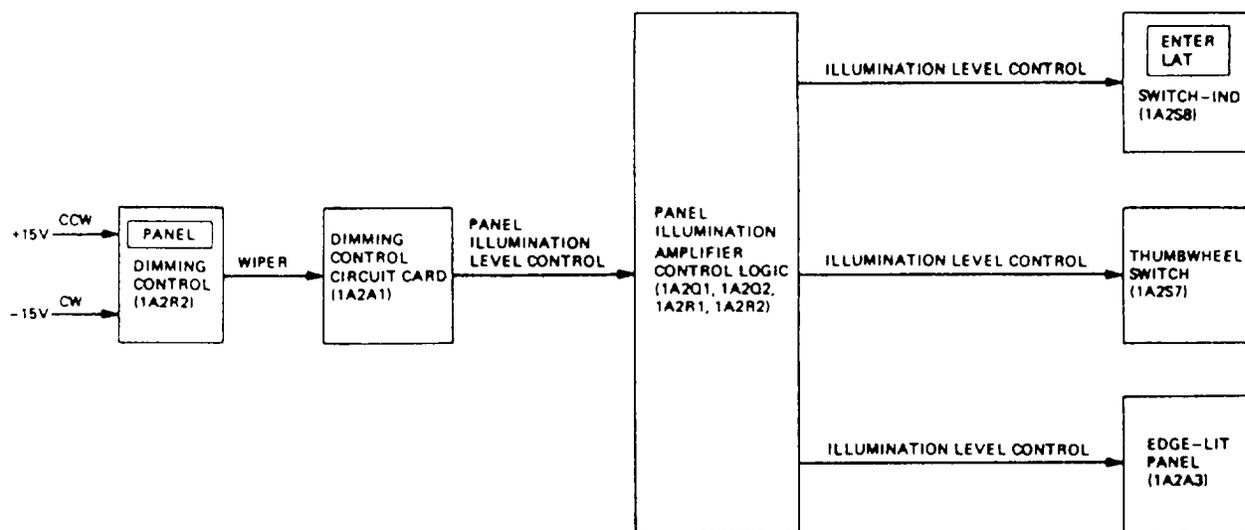

Figure 4-49.—Panel lighting dimming block diagram.
Two circuits control the level of illumination of the control-indicator's panel lighting and indicators. These circuits are illustrated in block diagrams in figures 4-49 and 4-50.
**PANEL LIGHTING.**— The control indicator panel lighting is controlled by a potentiometer marked PANEL. The PANEL potentiometer is excited by  $\pm 15$  volts dc. The potentiometer adjusts a biasing level applied to the illumination sensing circuit in the dimming control circuit card. The output of the sensing circuit drives the dimming control amplifier. The output of the dimming control amplifier is an aboveground variable voltage determined by the position of the PANEL potentiometer. Figure 4-49 identifies the lights controlled by the PANEL potentiometer.